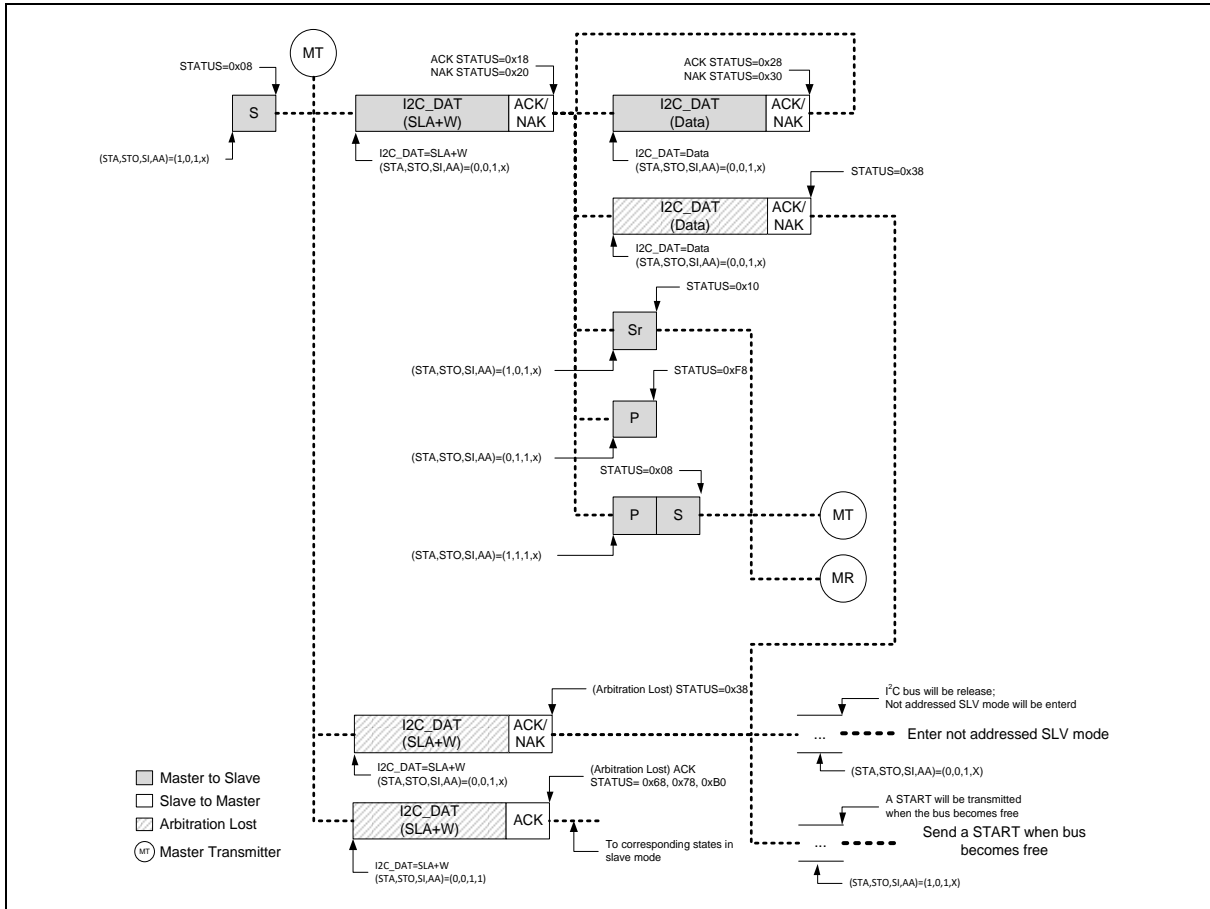
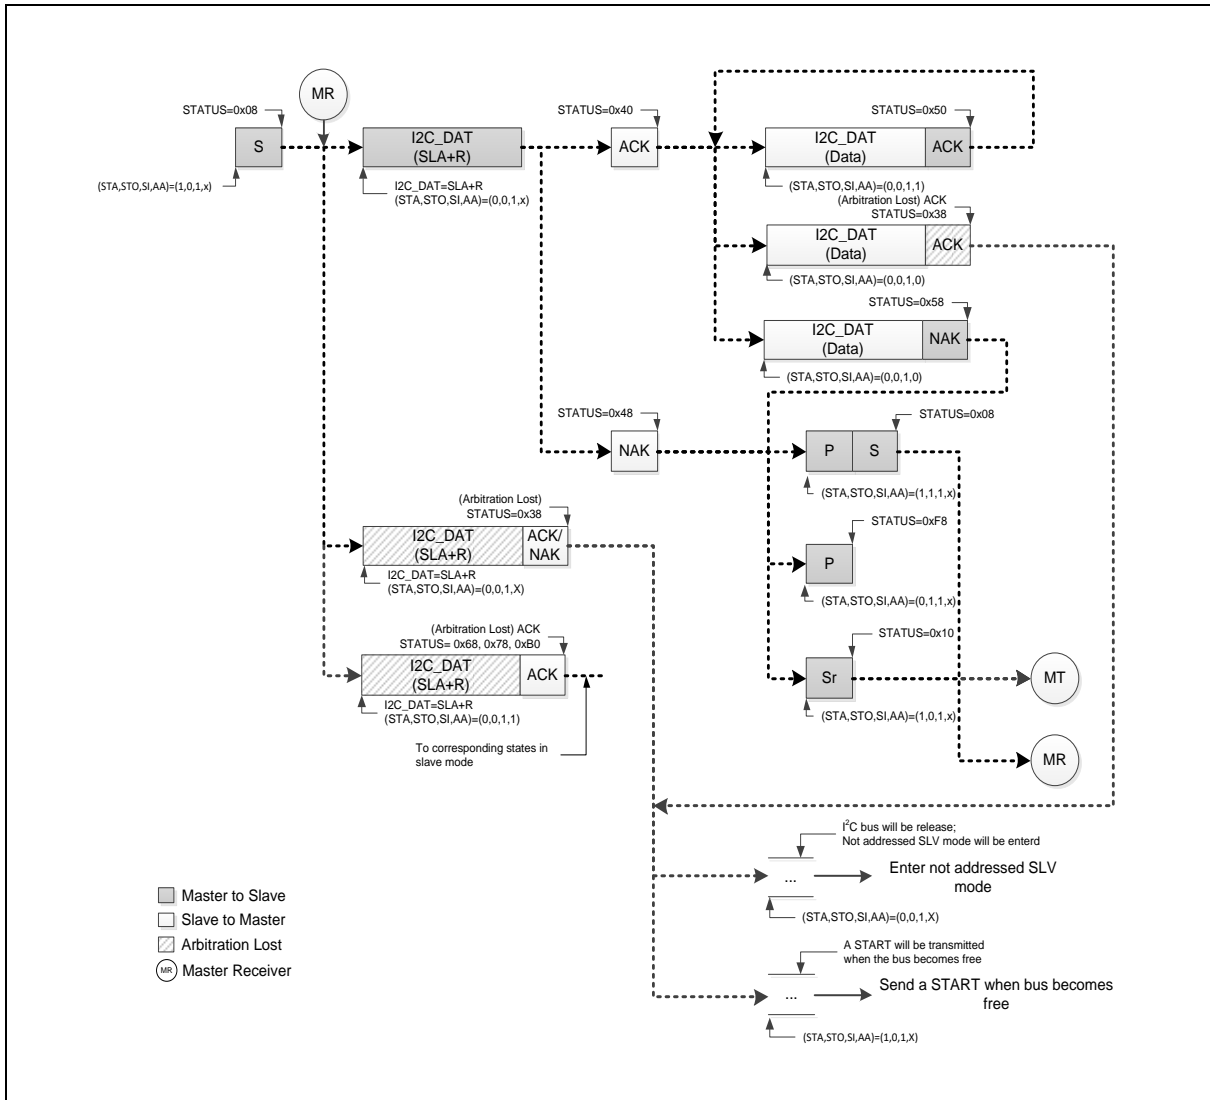

Figure 6.25-12 Master Transmitter Mode Control Flow
Figure 6.25-13 Master Receiver Mode Control Flow
In Figure 6.25-12 and Figure 6.25-13, all possible protocols for I²C master are shown. User needs to follow proper path of the flow to implement required I²C protocol.
In other words, user can send a START signal to bus and I²C will be in Master Transmitter (MT) mode (Figure 6.25-12) or Master receiver (MR) mode (Figure 6.25-13) after START signal has been sent successfully and new status code would be 0x08. Followed by START signal, user can send slave address, read/write bit, data and Repeat START, STOP to perform I²C protocol.